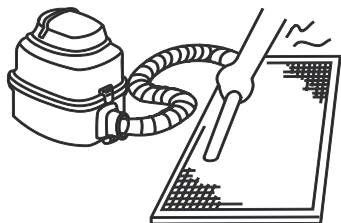

Figure 14.2
- The air intake side should face up when using a vacuum cleaner. (Refer to Figure 14.2)